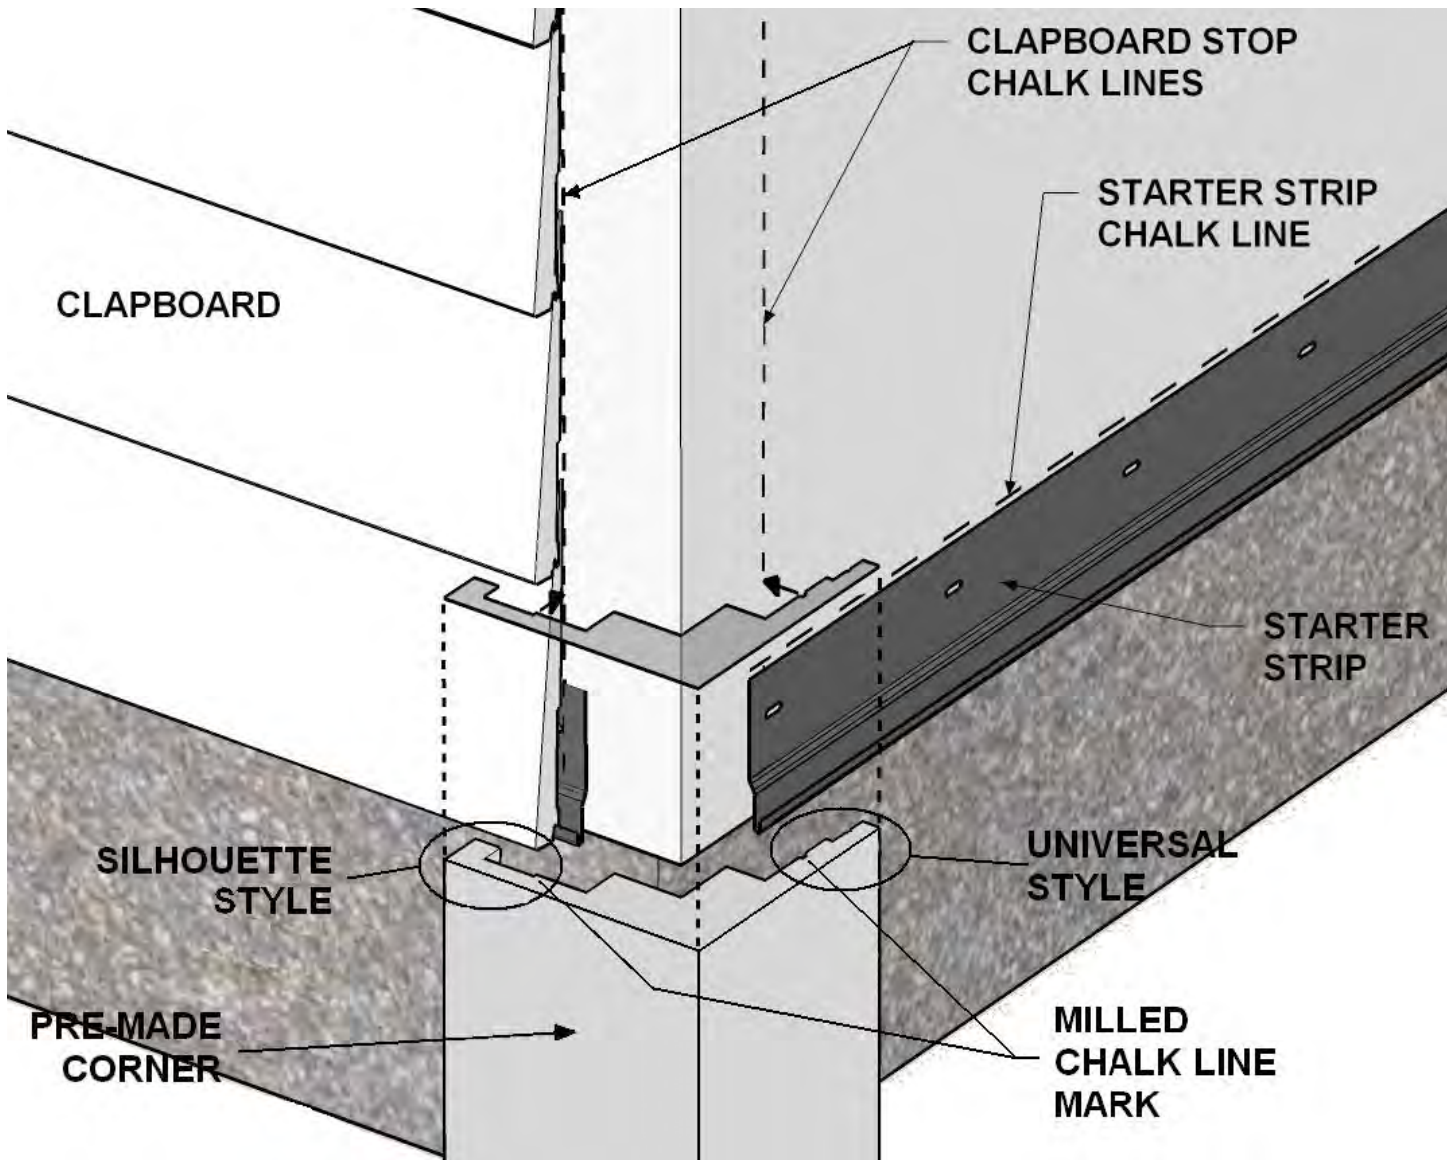

Fig. 2
Step 1: Layout the Clapboard Stop Lines (refer to Fig. 2)
Step 2: Install NuCedar Starter Strip *(refer to Fig. 2)*
Laterally position the first clapboard by aligning an end with a clapboard stop line (refer to Fig. 2).